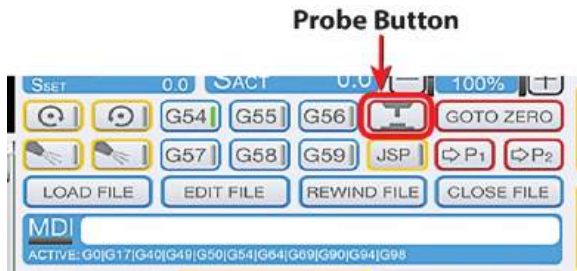

Figure 10-6
3. Press the “Probe Button” on the UCCNC home screen (see Figure 10-6). The bit will lower until it touches the puck and then it will move back up. The software sets the zero point automatically.